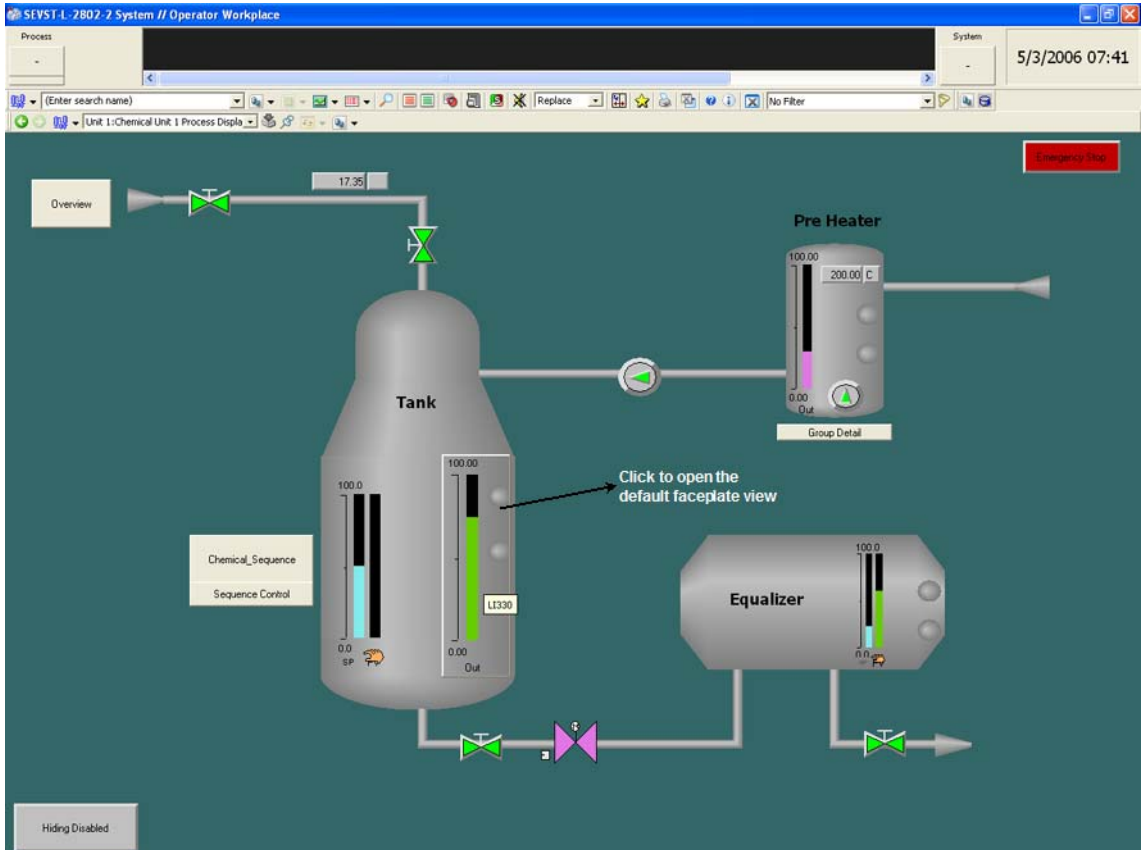

Figure 10. Graphic Display
- Clicking on a graphic element placed on a graphic display as shown in Figure 10.